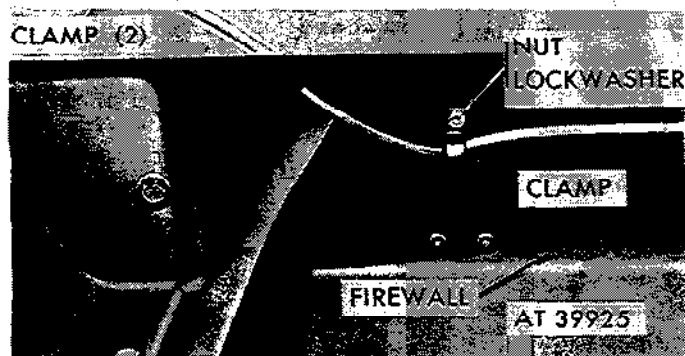

Figure 2-186. Remove clamps from firewall (M151A1, M151A2, M151A1C, M825, M718, M718A1).
(6) Remove two screws and lockwashers securing clamps and cable to firewall inside passenger compartment above tunnel cover. Remove clamps from cable (M151A1, M151A2, M151A1C, M825, M718 and M718A1) (fig. 2-186).